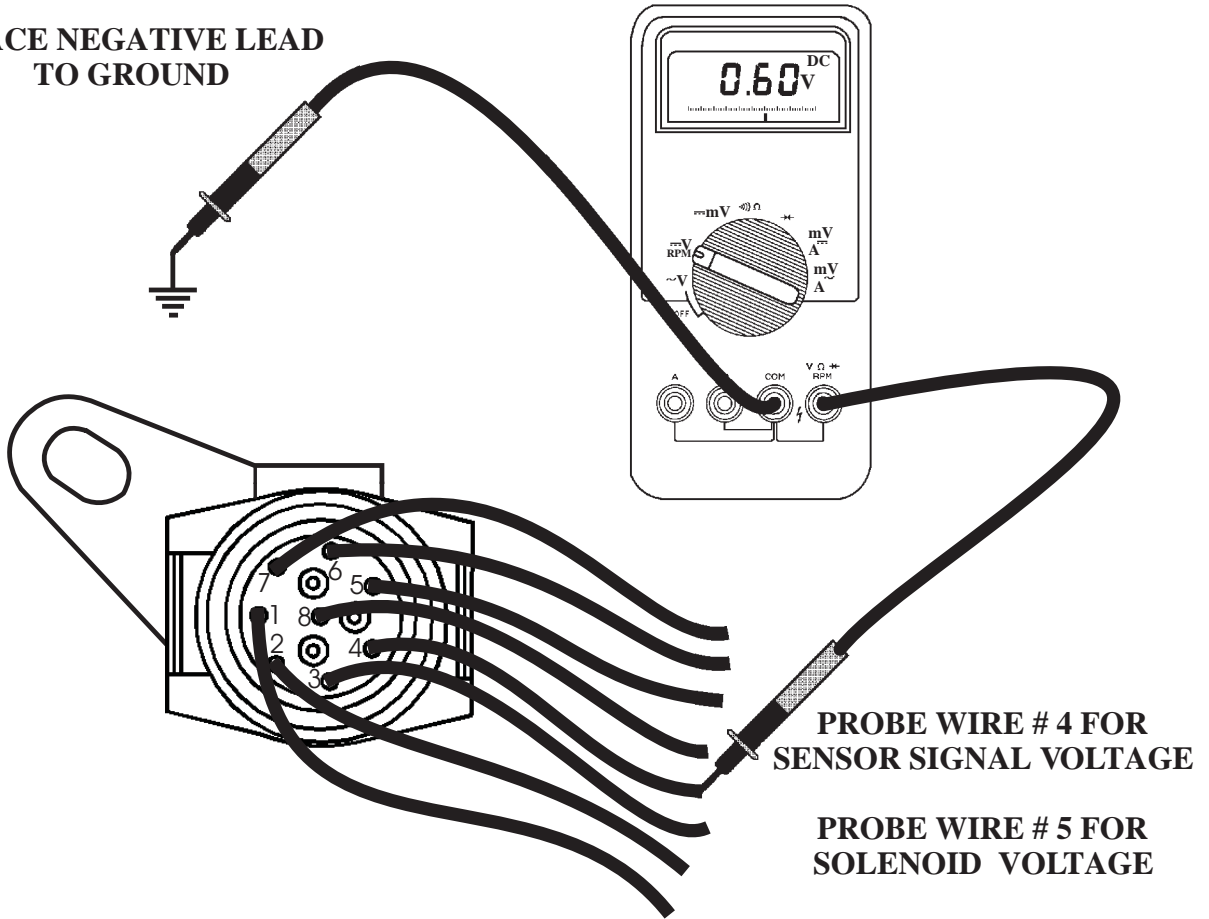

Figure 3
- (b)** Once oriented to the case connector and vehicle harness connector, locate terminal number 4 and connect the vehicle harness back onto the case connector. With your DVOM set on DC volts, place the negative lead to a known good ground. Carefully backprobe into wire number 4 with the positive lead, as shown in Figure 3.
(d) Maintain the ground lead to a known good ground and carefully backprobe into wire number 5 (Governor Pressure Solenoid) with the positive lead (See Figure 3). Again using the chart in Figure 4, compare the voltage values for the governor pressure solenoid, to the actual governor pressure indicated on the gauge.